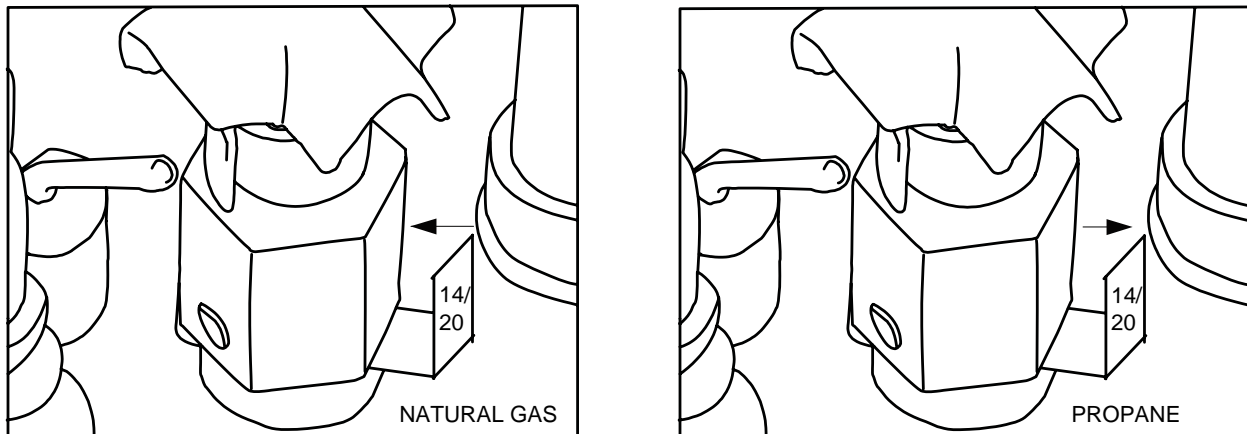

Figure 13: Quick Change Pilot Assembly Tab Position for Natural Gas (left) and Propane (right).
2. Place the Quick Change Pilot Tab to the proper position (as shown in Figure 13).